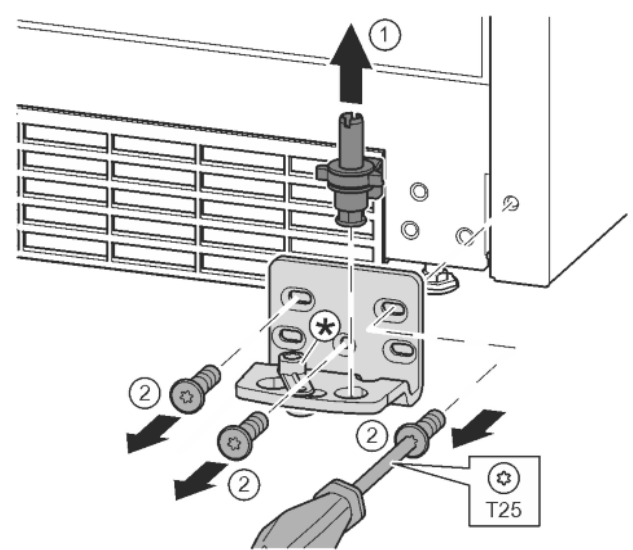

Fig. 12
- ▶ Lift the bearing pin completely upward and remove. Fig. 12 (1)
- ▶ Undo the screws with a T25 screwdriver and remove the bearing bracket Fig. 12 (2)